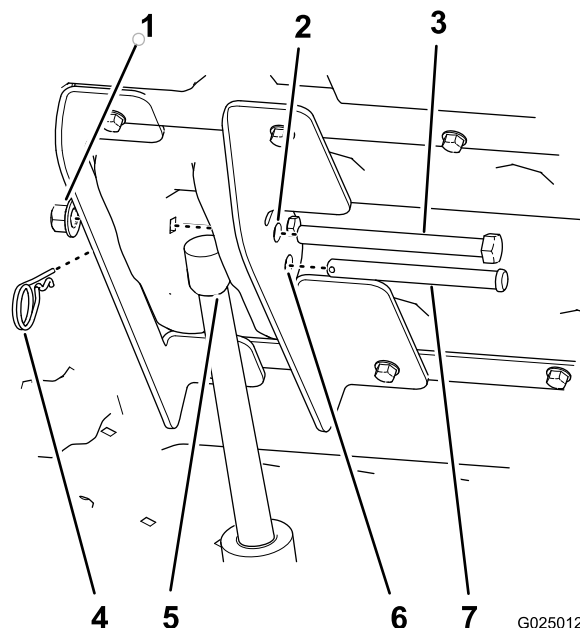

Figure 24
8. Secure the lift-actuator rod to the lift brackets with clevis pin (3-1/2 inch) and hairpin (Figure 24).
10. Align the hex-head bolt (1/2 x 5-1/2 inch) through the remaining 12.7 mm (1/2 inch) holes in the inboard and outboard-lift brackets (Figure 24) and secure it with a nut (1/2 inch) until the flange nut is snug.